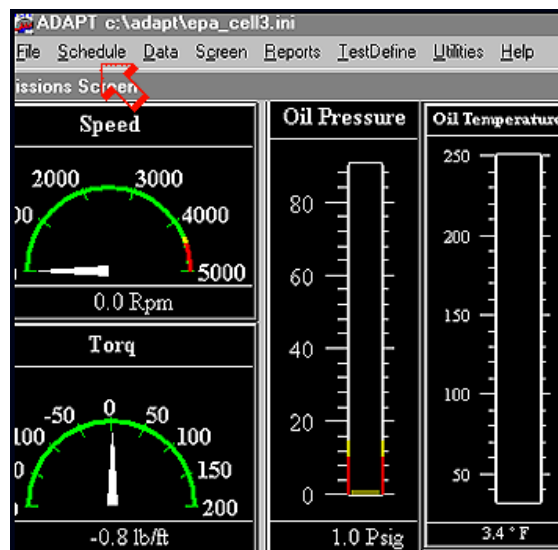

Figure 6
- 108 At top of the "ADAPT c:\adapt\epa_cell3ini" screen, click on "Schedule." See the arrow in Figure 6. Select "Start Test" from the menu. The "Enter Header Data" box will appear.